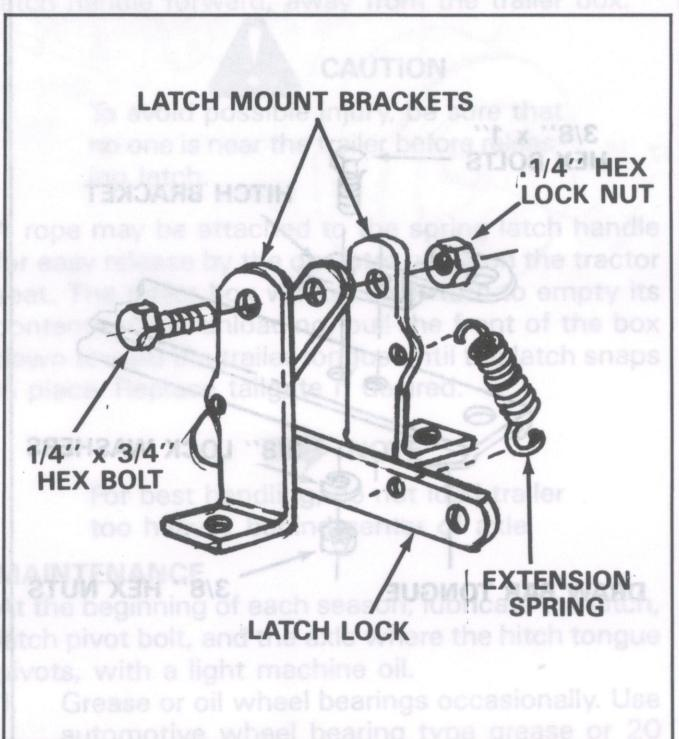

FIGURE 9
15. Assemble two latch mount brackets, latch lock and extension spring using one $1/4'' \times 3/4''$ hex bolt and $1/4''$ hex lock nut. See figure 9. **Do not tighten** $1/4''$ lock nut, latch lock must pivot freely.